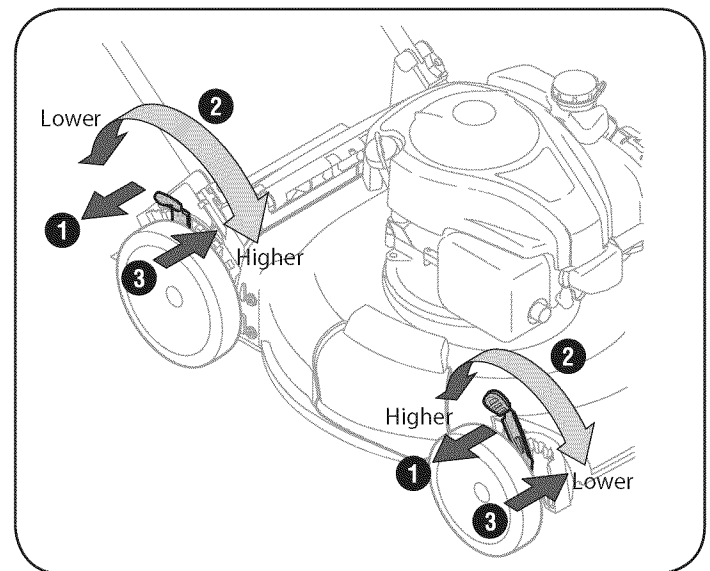

Figure 8
1. Pull the height adjustment lever outward towards wheel (unit will tend to fall when lever is moved outward). See Figure 8.
2. Move lever to desired position for a change in cutting height. See Figure 8.